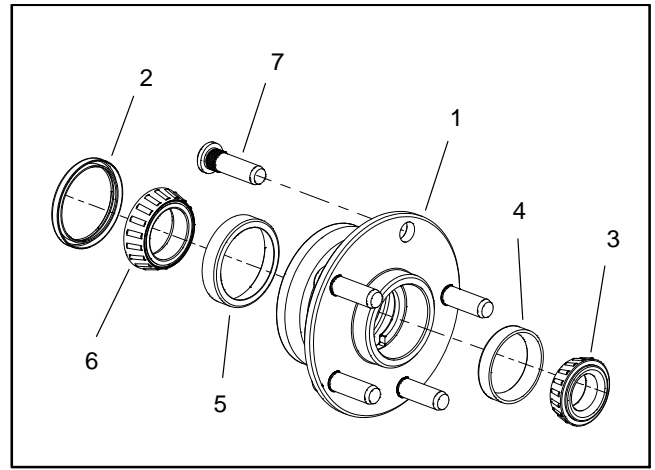

Figure 15
3. Carefully pry dust cap (item 3) from wheel hub.
4. Remove cotter pin and nut retainer (item 5) from spindle.
5. Remove spindle nut (item 6) and tab washer that secure wheel hub assembly to spindle. Slide wheel hub with bearings and brake rotor from spindle.
6. Disassemble the wheel hub (Fig. 15):